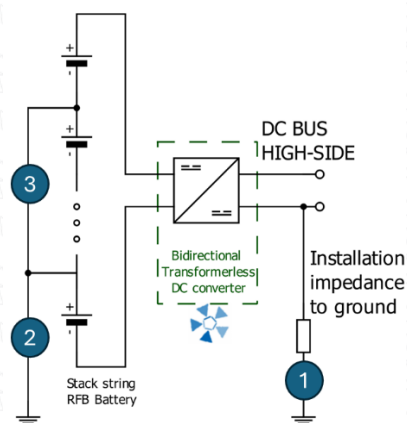

Figure 5: Potential ground insulation faults
In Figure 5 a general diagram showing the effect of the (1) installation impedance to ground (which can be low in large installations), the fault to ground of one stack (2) and the short circuit created between them by another stack (3).